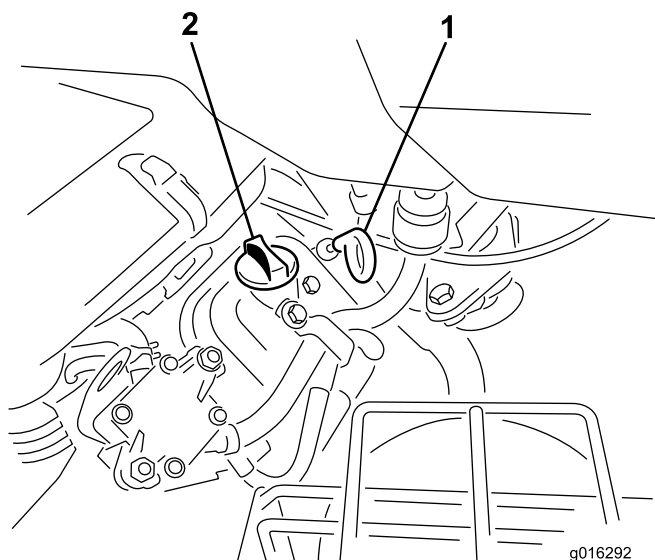

Figure 28
2. Unscrew the dipstick and wipe it with a clean rag. Screw the dipstick into the tube and make sure it is seated fully (Figure 28).